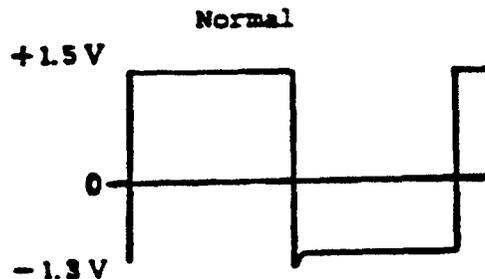

FIGURE 22
2. Run the inverter and check base pulses with an oscilloscope. The ground lead of the scope should be connected to the emitter and the probe on the base. Connectors CN-1 to CN-4 provide access for measurement, see Figure 23. Check all six base amplifier voltages. Figure 22 shows normal levels for proper operation.